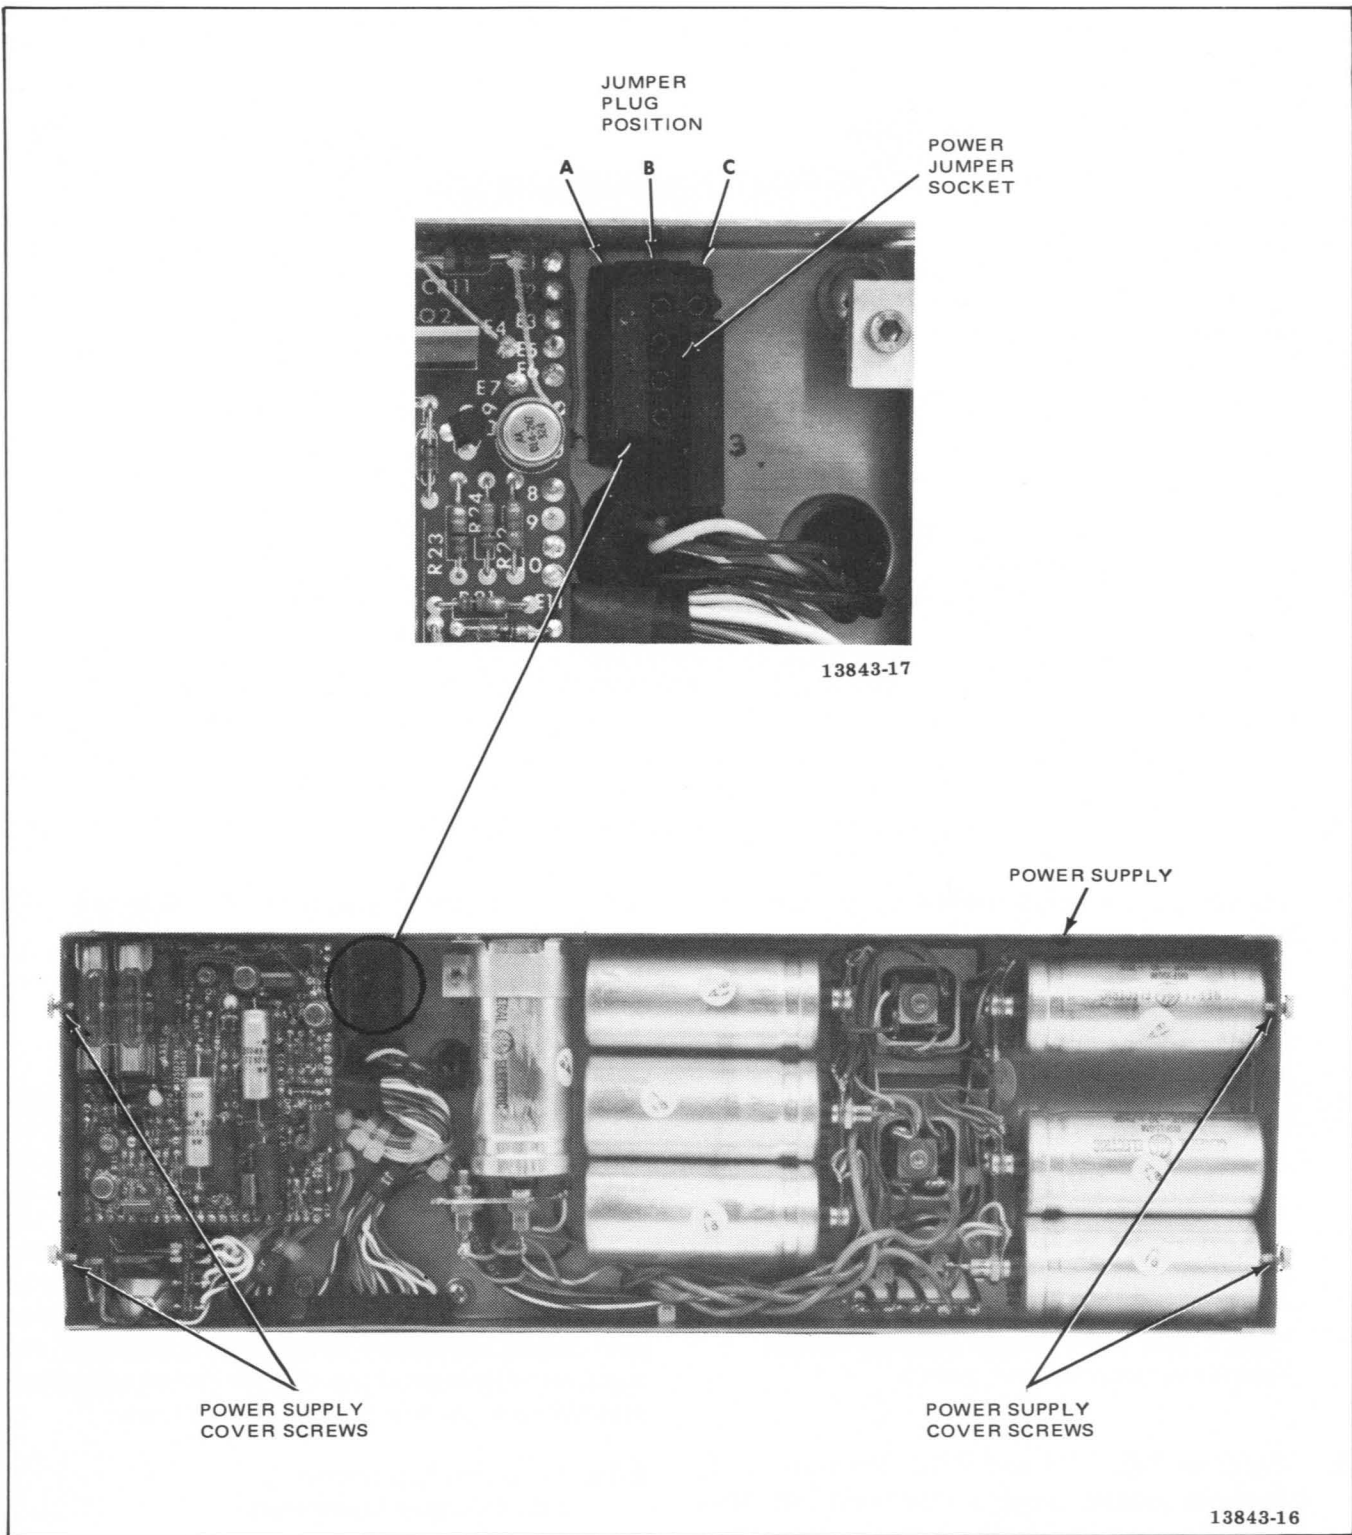

Figure 2-12. Main Power Jumper Location
A jumper plug and socket arrangement (Figure 2-12) accessible inside the power supply, adapts the recorder/reproducer for the various input voltages. The jumpers are factory-set to 110-135 Vac unless specified otherwise on the sales order. However, the line voltage should be measured and, if required, the jumpers reset to correspond to the line voltage. Table 2-1 lists the various voltages and the corresponding jumper-plug position.
1. At the bottom side of the recorder/reproducer, loosen the four power supply cover screws and remove the cover to gain access to the power jumper socket (Figure 2-12).